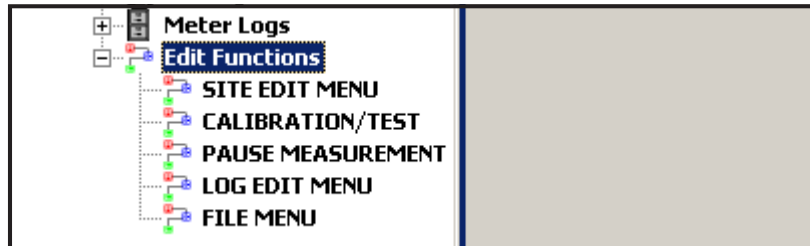
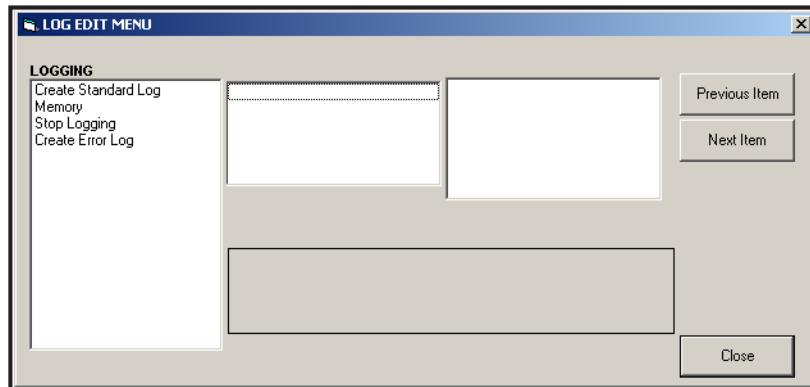

Figure 10: Edit Functions Menu for XGM868i with Logging Card
Figure 11: Log Edit Menu Window
1. From the *New Meter Browser* in PanaView, expand the network tree and open the *Edit Functions* option (described in Appendix C, *Programming the XGM868i via PanaView*). The menu will appear similar to Figure 10.
2. Double-click on the *Log Edit Menu*, as shown in Figure 10. The window appears similar to Figure 11.